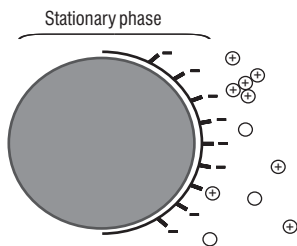

Figure 1 - Schematic diagram of the HbA1c separation principle.
**Test principle** . The principle of the method is based on the high-performance chromatographic separation of HbA1c using an ion-exchange column as the stationary phase. Non-HbA1c has a positive charge, while HbA1c is practically neutral. HbA1c can be separated from non-HbA1c due to the difference in their charges, as shown in Figure 1. The stationary phase has a group with exchangeable cations, which can bind to the positively charged non-HbA1c by electrostatic action. As HbA1c is uncharged, it cannot bind to the stationary phase. Therefore, elution is performed with a low ionic strength washing solution so that HbA1c is eluted first; subsequently, non-HbA1c is eluted with a high ionic strength washing solution to obtain the corresponding hemoglobin chromatogram.